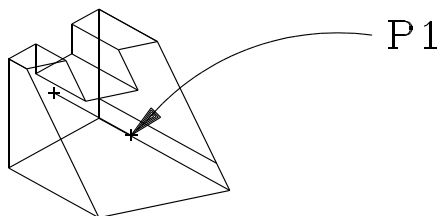

Figure 7
28. Click on point P1 on the oblique plane. (See Figure 7.)